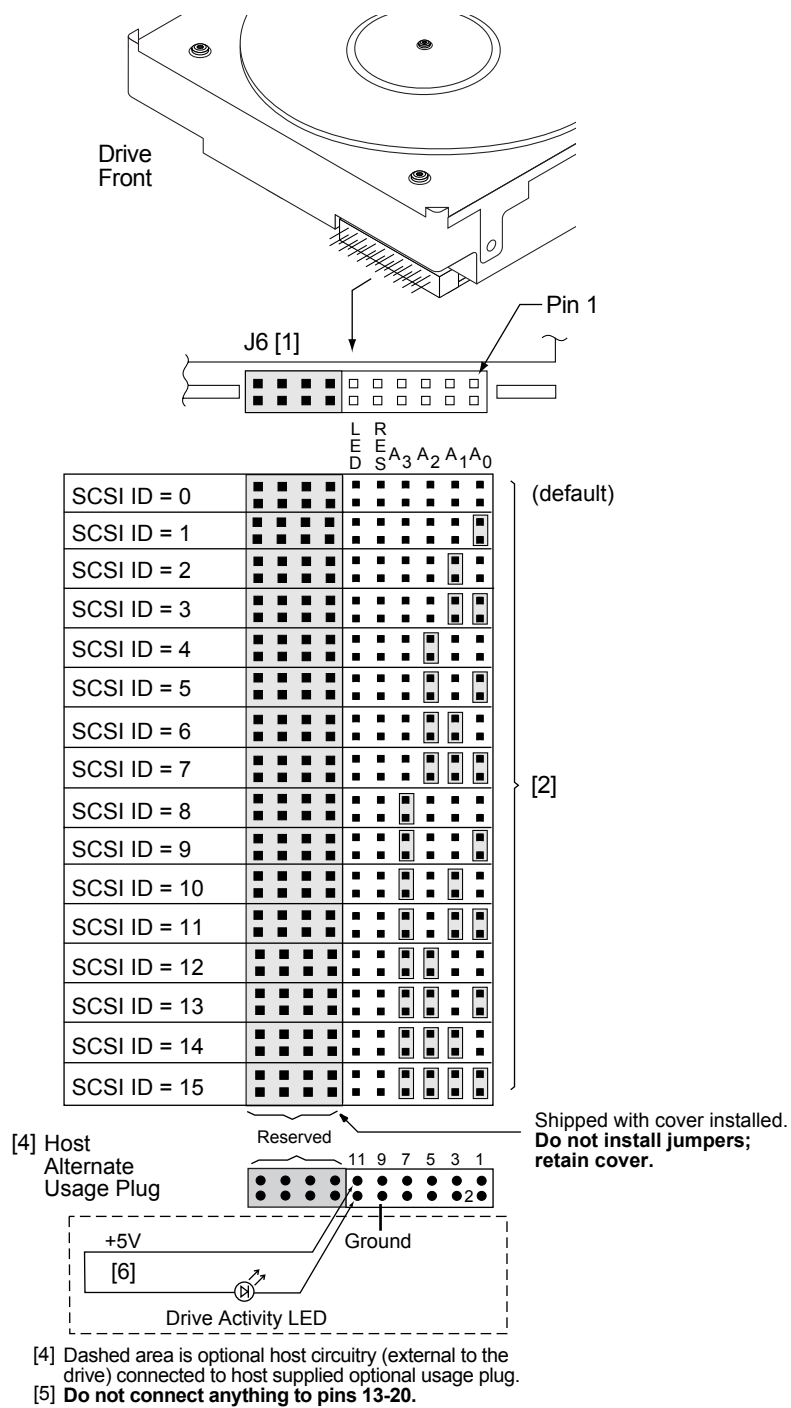
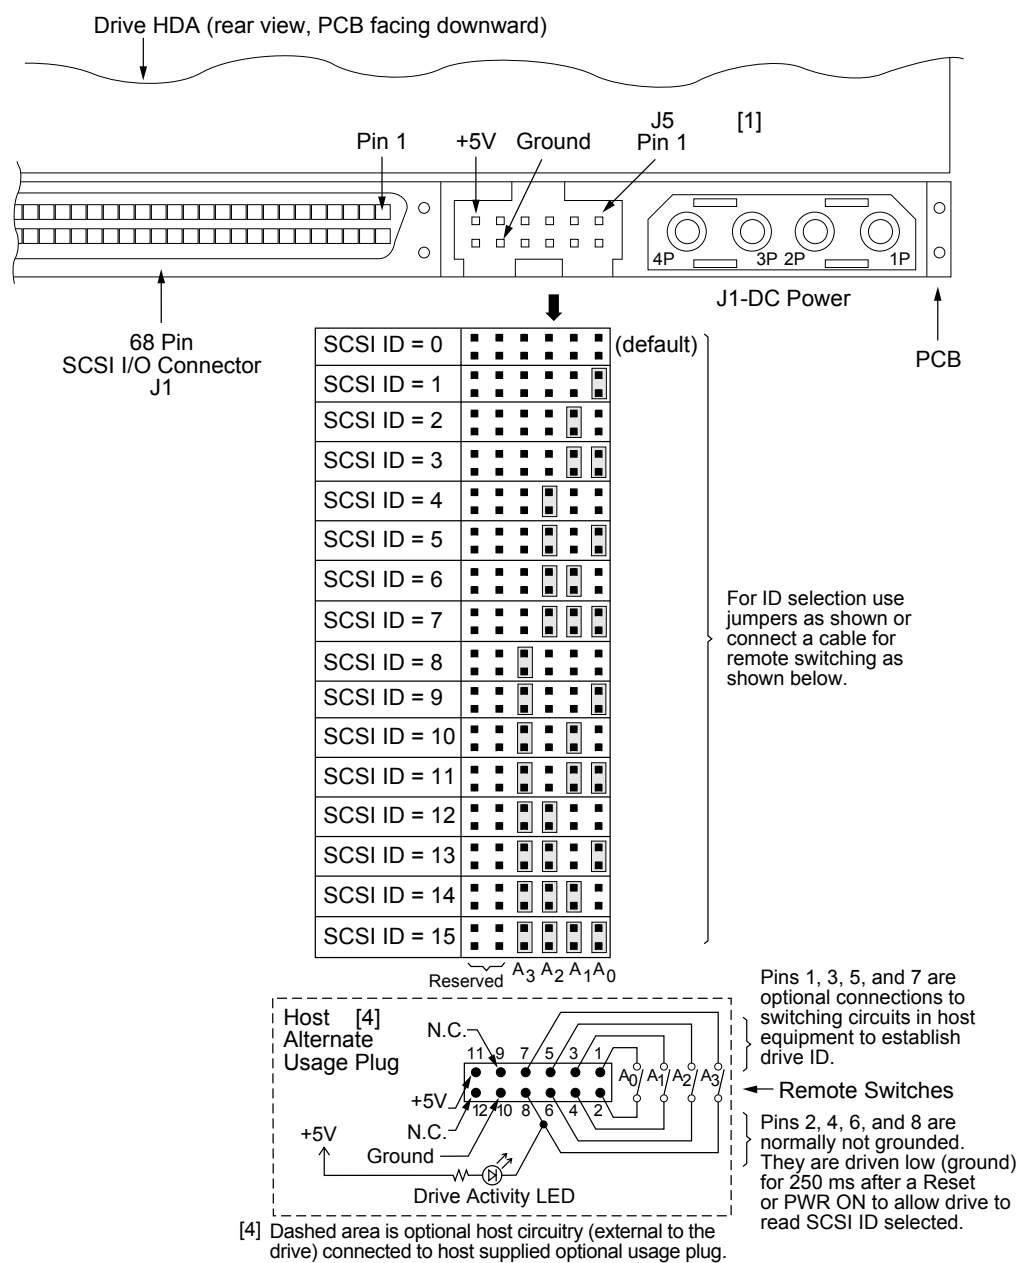
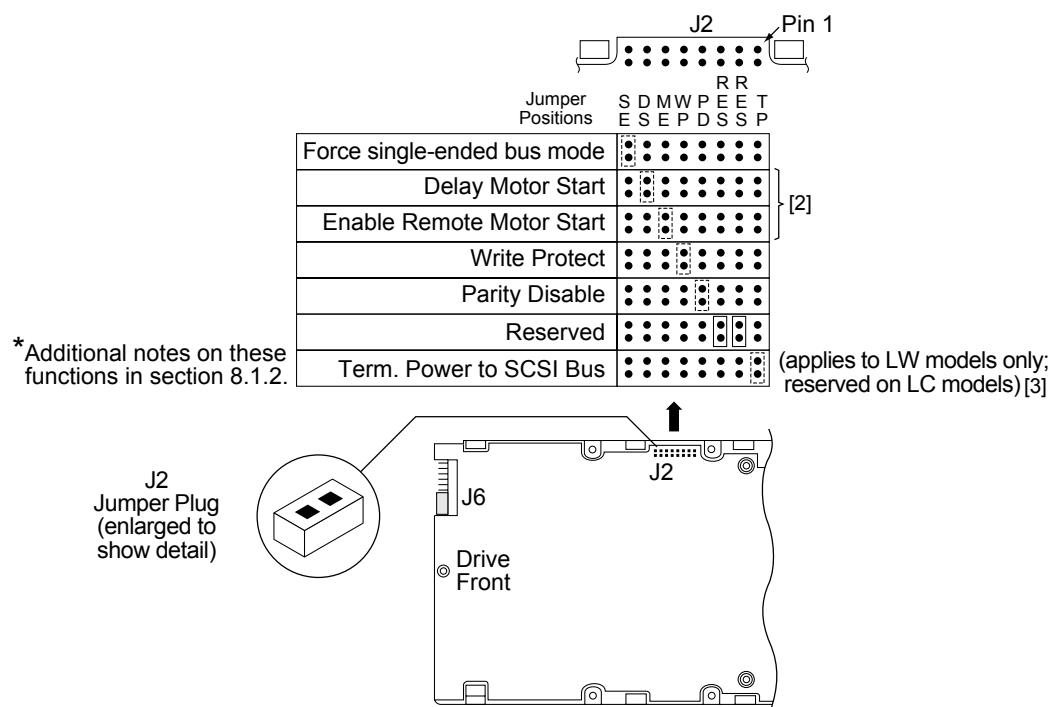

Figure 18. J6 jumper header
Figure 19. J5 jumper header (on LW models only)
Figure 20. J2 option select header (on LW models only)
For option jumper locations and definitions refer to Figures 18, 19, and 20. Drive default mode parameters are not normally needed for installation. Refer to Section 9.3.2 for default mode parameters if they are needed.
Figures 18 and 19 show views of the drive ID select jumper connectors. Figure 20 shows the option select jumper connector for all models. Figure 18 shows the drive's J5-auxiliary jumper connector. Both J5-auxiliary and J6 have pins for selecting drive ID and for connecting the remote LED cable. Only one or the other should be used, although using both at the same time would not damage the drive. The notes following the figures describe the functions of the various jumper positions on the connectors J2, J5-Auxiliary and J6. Suggested part number for the jumpers used on J2 is Molex 52747-0211 (Seagate part number 77679052). A bag with the two jumper plug types is shipped with the standard OEM drives.
8.1.1 Notes for Figures 18, 19, and 20.
- [6] Connect an external Drive Activity LED to J6 pins 11 and 12 (see Figure 18), or to J5 pin 8 (see Figure 19) and the drives +5V power source, through an appropriately sized current limiting resistor. The drive provides an internal 150 ohm current limiting resistor for the J6 connection.